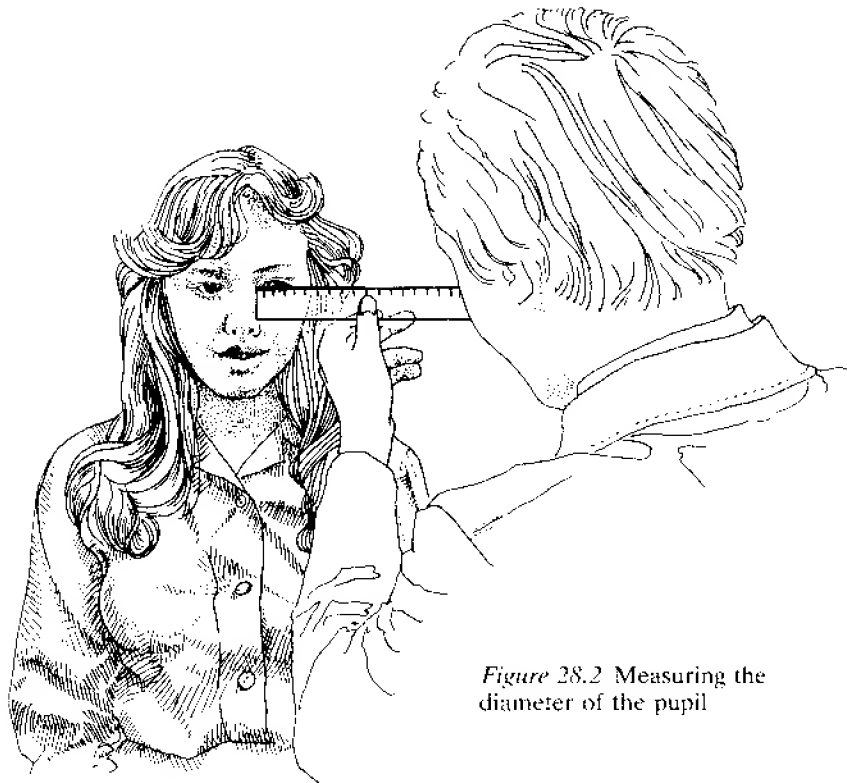

Figure 28.2 Measuring the diameter of the pupil
1. In a dimly lit room, hold a ruler very close to one of your assistant's eyes and measure the diameter of the pupil (see Figure 28.2).